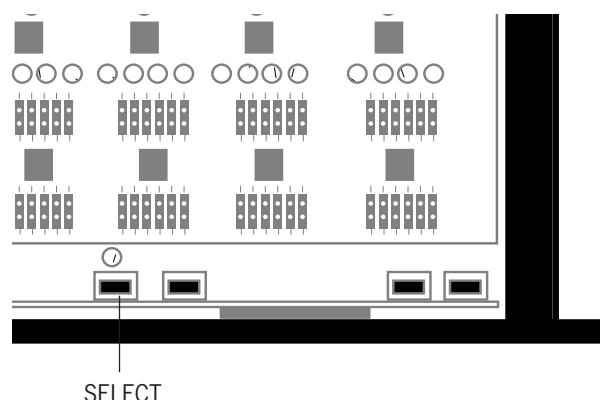

Figure 7.2: DEQ-I Select Button
1. Push and hold the **SELECT** internal control (see Figure 7.2). Notice that the 7-segment display is now showing a two-digit number instead of the single-digit number it was showing. This two-digit number is the Active Filter Band number, which denotes the filter band you are currently working with. Appendix E provides a listing of the Active Filter Band numbers and their corresponding 7-segment display codes. You will need to refer to this listing as you use the internal controls.